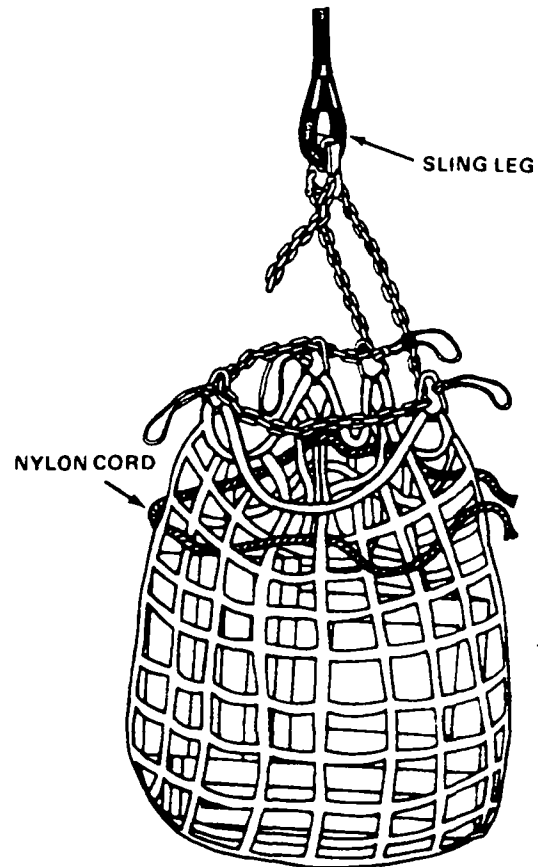

Figure 7-2. Rigging A Loaded Net
Step 4 - Tie the net around the top of the cargo with nylon cord (Figure 7-2) or other material by routing the cord through the net mesh. Tighten and secure the cord to prevent the net from hanging loose and cargo falling out.